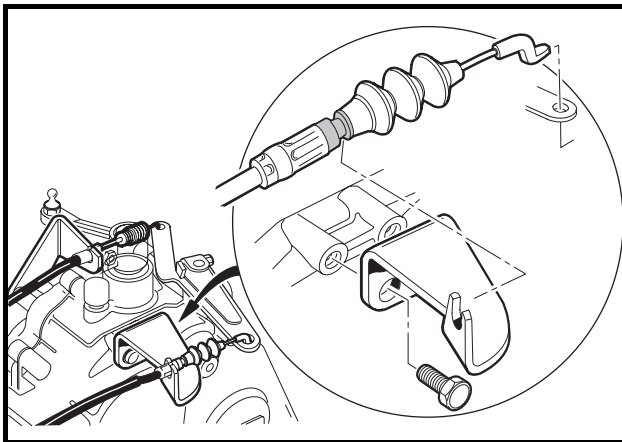

Figure 16-38 Governor Cable Bracket
8. Install the governor cable bracket on transaxle case. Tighten the mounting screws to 134 in-lb (15.1 N·m) (**Figure 16-38, Page 16-17**).